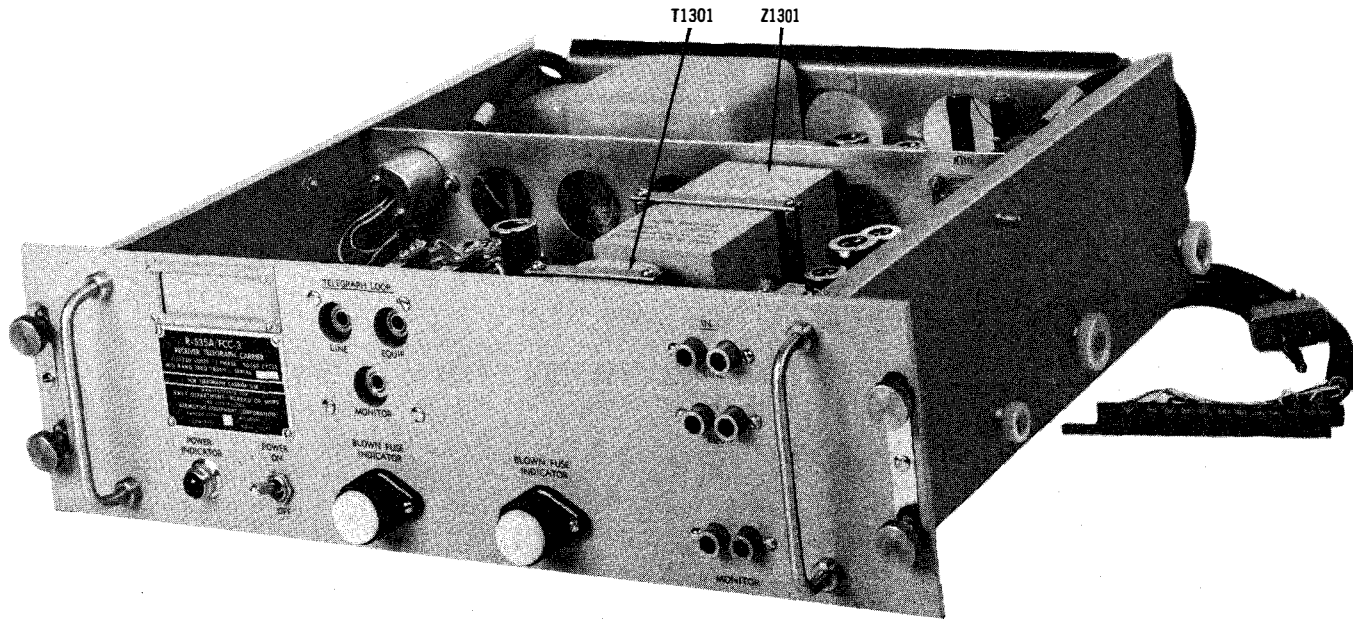

Figure 1-3. Telegraph Carrier Receivers, Identification of
c. TELEGRAPH CARRIER RECEIVERS. (See figure 1-3.) - This unit converts the frequency shift audio telegraph signals of the channel to DC pulses for operation of a telegraph printer or other telegraph end equipment. The telegraph carrier receiver consists of a power supply, signal limiter amplifier, output keying circuit, a plug-in band-pass filter and discriminator, and a diversity combining circuit. Jacks are provided in the output loop circuits for patching several telegraph printers into the same loop circuit. The unit operates from a single phase power source of 115/230 volts and 50/60 cycles. For 230 volt operation a transformer tap switch on the chassis must be changed. The circuit parts are mounted in a 19 inch panel and chassis combination 5-1/4 inches high and 16 inches deep. The chassis is provided with a sliding drawer mechanism which allows the chassis to be withdrawn from the cabinet and tilted up to expose the bottom for maintenance. The telegraph carrier receiver also includes Cable Assembly CX-4292/FCC-3A and Cable Assembly CX-4291/U (4'4"). Table 1-6 correlates the nomenclature of the twelve receivers with the mid-band center frequencies. All receivers are mechanically and electrically alike except for the plug-in band-pass filter, discriminator, and a change in value of a capacitor in the wide-band channels.
h. RECEIVER FILTERS. - (See figure 1-3.) A receiver has one plug-in receiver band-pass filter and one plug-in discriminator transformer. The filters supplied with the receivers are listed in table 1-6. All receivers are electrically and mechanically identical except for the different plug-in filters used and the change in value of a capacitor in the wide-band channels. The center frequency of any receiver may be changed by plugging in another set of filters.